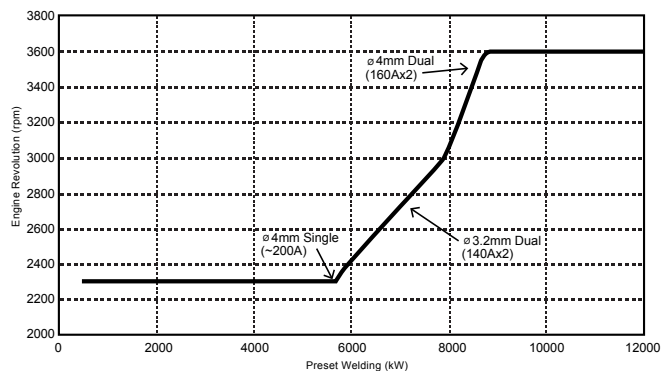

Figure 32. E-Mode Engine Variable Control
- If welding is started with the **e-mode selector switch** in the variable/low position, the standard welding load voltage is automatically calculated based on the preset welding current (Figure 32) and the engine speed will be controlled by the available kW capacity of the unit for either single or dual mode operation.